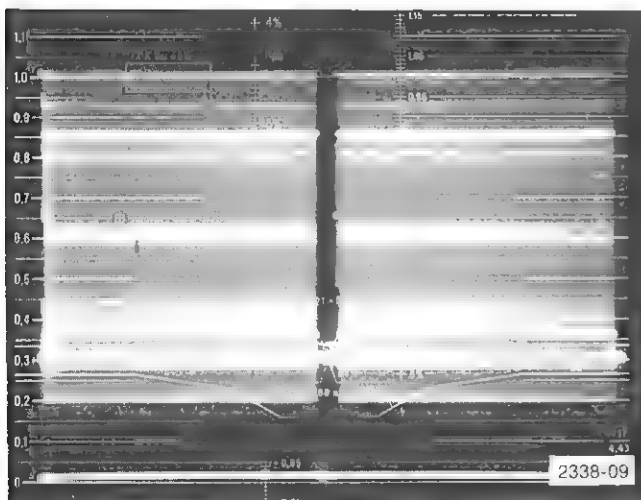

Fig. 1-10. 2-field display.
- a. 2 FIELD: Change the DISPLAY to 2 FIELD. Depress the LINE SELECTOR OFF pushbutton. Check for a full 2-field display, including part of the first vertical interval. See Fig. 1-10.